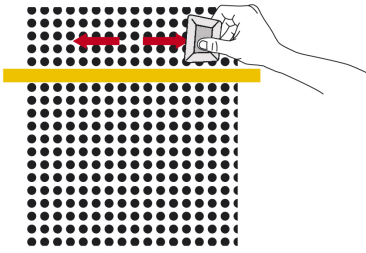

Figure 04
- › Apply the film with the squeegee carrying out movements from the centre towards the borders. (FIG. 04)